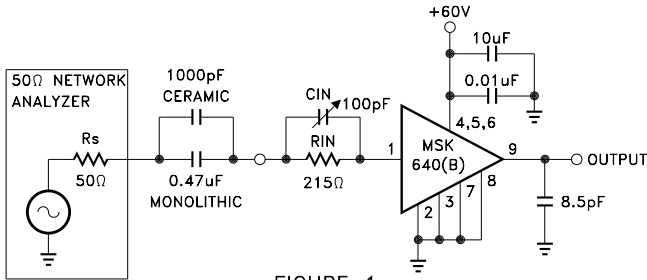

FIGURE 1
- ① R_{IN} = 215Ω, C_{IN} = 100pF, C_{LOAD} = 8.5pF, R_L = ∞, unless otherwise specified (See Figure 1).
- ② Guaranteed by design but not tested. Typical parameters are representative of actual device performance but are for reference only.
- ③ Industrial grade devices shall be tested to subgroups 1 and 4 unless otherwise specified.
- ④ Military grade devices ('B' suffix) shall be 100% tested to subgroups 1,2,3 and 4.
- ⑤ Subgroup 5 and 6 testing available upon request.
- ⑥ Subgroup 1,4 T_A = T_C = +25°C
The signal source in Figure 1 can be either a fast pulse generator or a network analyzer as long as the output impedance is 50 ohms. The DC level of the input should be 1.55V and all cables should be kept as short as possible. Since total load capacitance should be kept below 8.5pF, a FET probe should be used on the output.
Transimpedance amplifiers relate input current to output voltage. The MSK 640 contains an internal 3K Ω feedback resistor. This resistor converts input current to output voltage in the following manner (See figure 1):